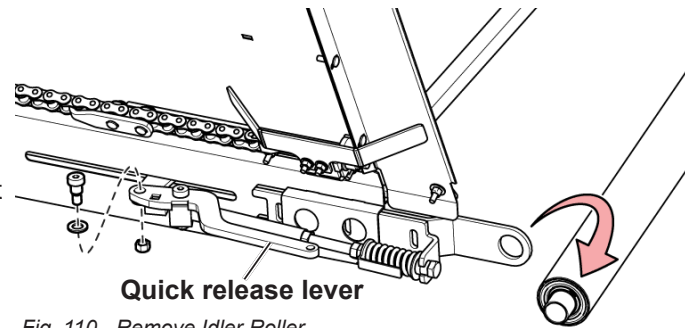

Fig. 110 - Remove Idler Roller
2. Remove the bolt securing the tensioner to the sway bar as shown in Fig. 110 on page 68. This will allow you to slide the tensioner assembly partially out of the c-channel far enough to remove the roller.